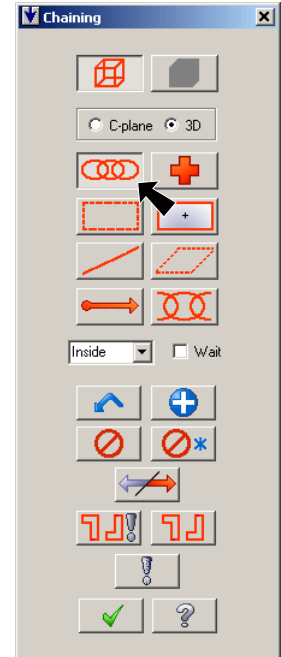

Fig. 19
Step 10. Click Chain  in Chaining dialog box, **Fig. 19**.